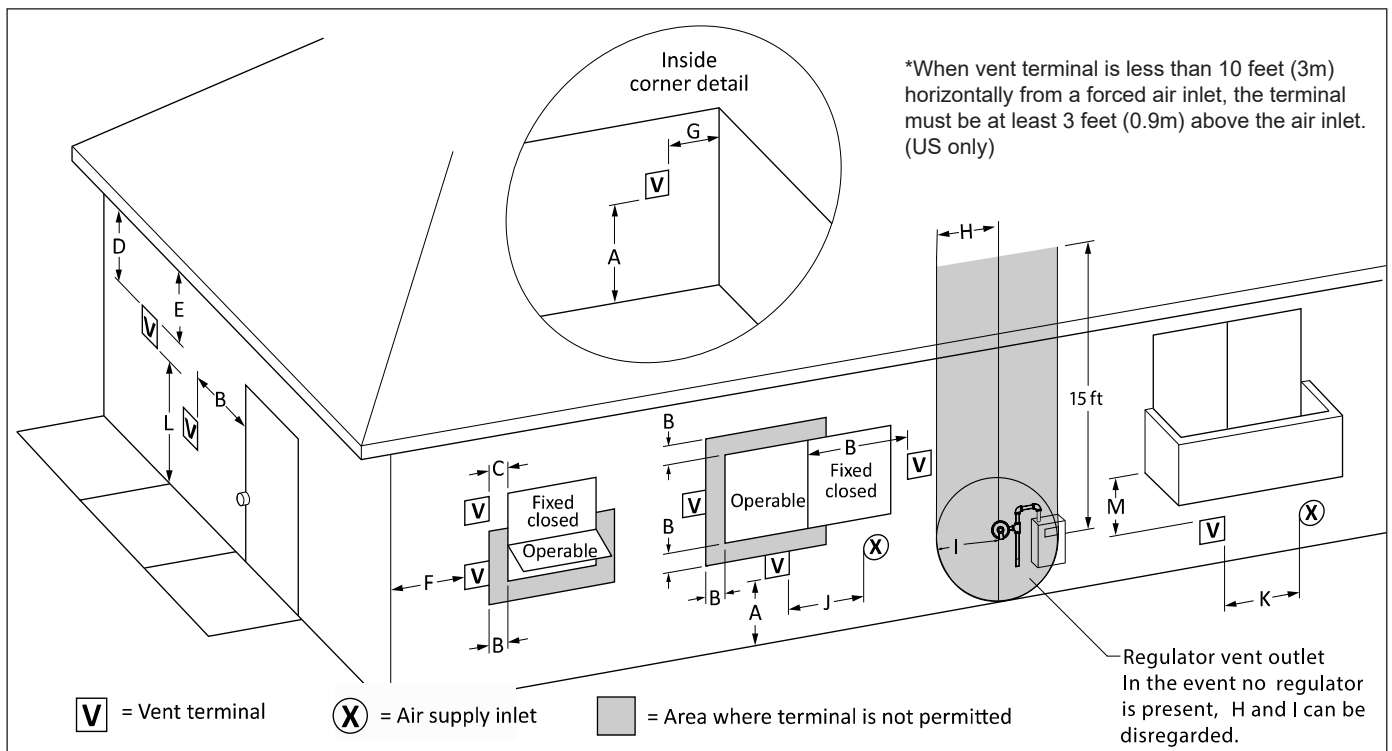
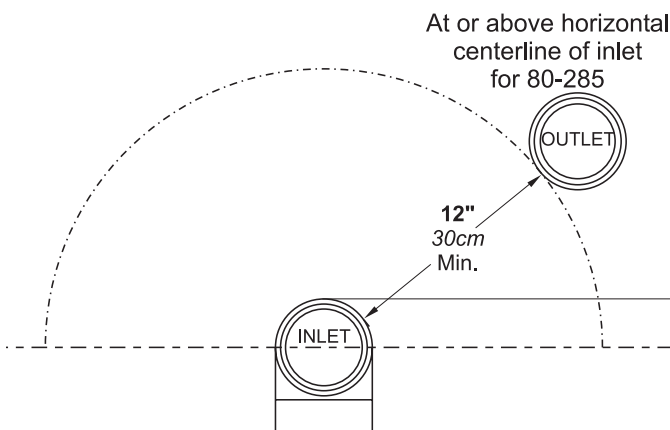

Figure 6. - Combustion Air and Vent Through Side Wall
Figure 7. - Minimum Venting Distance
The appropriate side wall vent terminal must be used. The terminal must be located in accordance with ANSI Z223.1/ NFPA 54 and applicable local codes. In Canada, the installation must be in accordance with CSA B149.1 or .2 and local applicable codes. Consider the points listed on the following page when installing the terminal. 1. Figure 6 shows the requirements for mechanical vent terminal clearances for the U.S. and Canada.
7. If the boiler uses ducted combustion air from an intake terminal located on the same wall, see Figure 6 through Figure 7 for proper spacing and orientation.
The Manufacturer side wall combustion air terminal, or concentric terminal must be used when the heater takes air from a side wall. (See Table 6.) Contact Manufacturer for AL29-4C termination fittings. Consider the following when installing the terminal. (See Figure 6 through Figure 7.)
7. The vent outlet for models 80-285 must be no lower than the center of the air inlet, and must be at least 12" (30cm) away from the air inlet. Vent outlets for models 399-850 must be at least 12" above the top of the air inlet, and must be at least 36" (90cm) horizontally from the air inlet. (See Figure 7.)